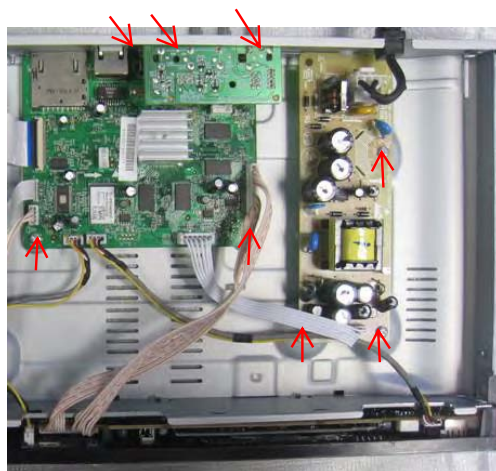

Figure 6
Step3: Dismantling Front Panel, disconnect the connectors (XP2, XP3,XP4)(Figure 6)
Step6: Dismantling Main Board and AV Board, first disconnect the connector (XP4), and then remove 5 screws. (Figure 6)
Step7: Remove 3 screws on Power Board to dismantle the Power Board. (Figure 6)